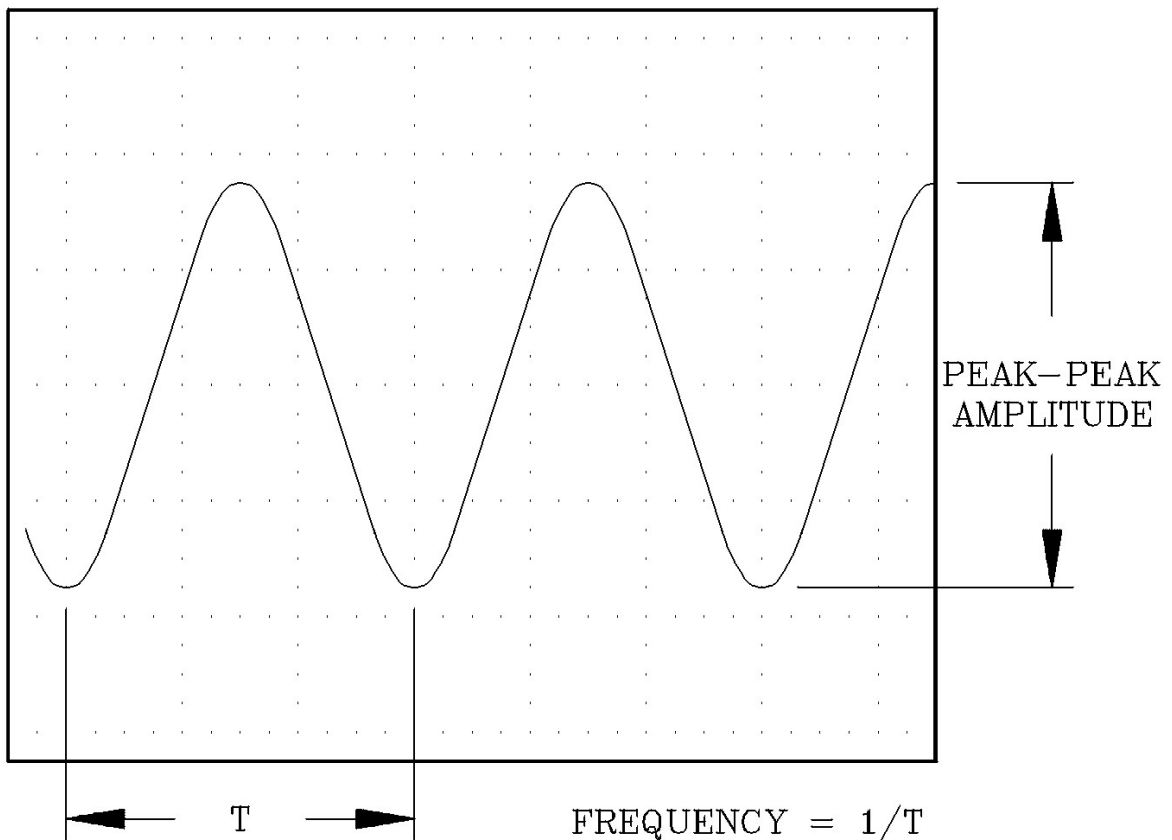

Fig. 1.2
8. Operate the demonstration rotor at a moderate speed and observe the oscilloscope display. The display should correspond to Figure 1.2. This display shows the time based measurement of the shaft vibration. Vibration amplitude and frequency may be obtained from this signal as described in Figure 1.2.